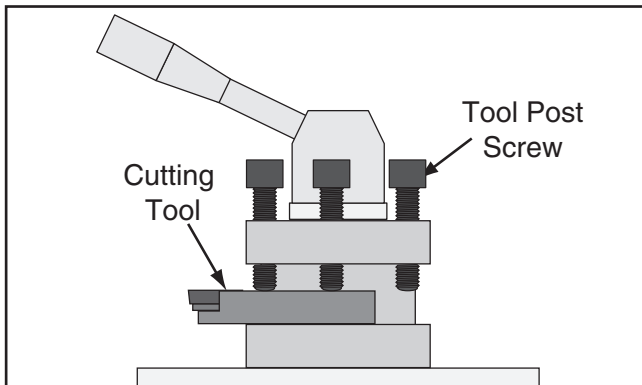

Figure 50. Example of tool mounted in tool post.
1. Adjust the tool post screws so that the cutting tool can fit underneath them (see **Figure 50**).